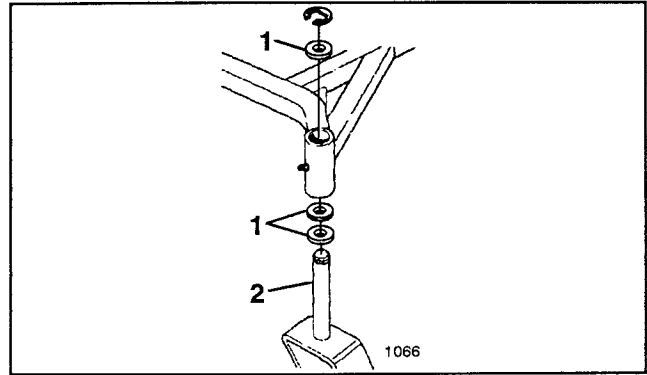

Figure 17
3. To change front-to-rear pitch move equal number of thrust washers on both front castor shafts. Move thrust washers from top to bottom to raise, or bottom to top to lower pitch (Fig. 17).
3. To change side-to-side leveling move thrust washers on one front castor shaft only. Move thrust washers from top to bottom to raise, or bottom to top to lower (Fig. 17).